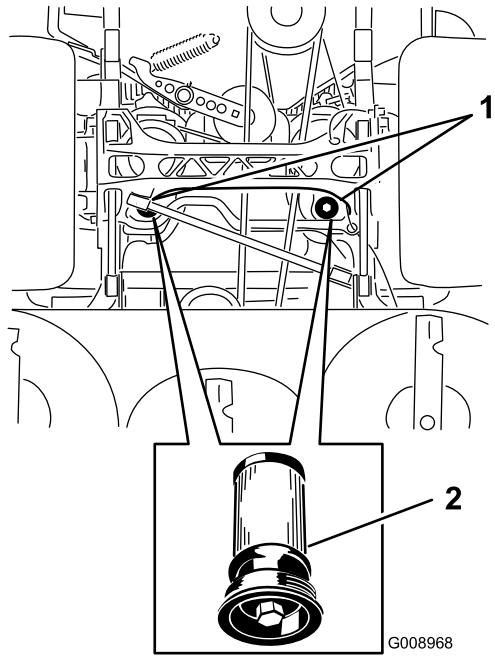

Figure 84
5. Place a drain pan under the filter, remove the old filter and wipe the surface clean (Figure 84).
- 6. Apply a thin coat of hydraulic oil to the rubber gasket on the replacement filter (Figure 84).